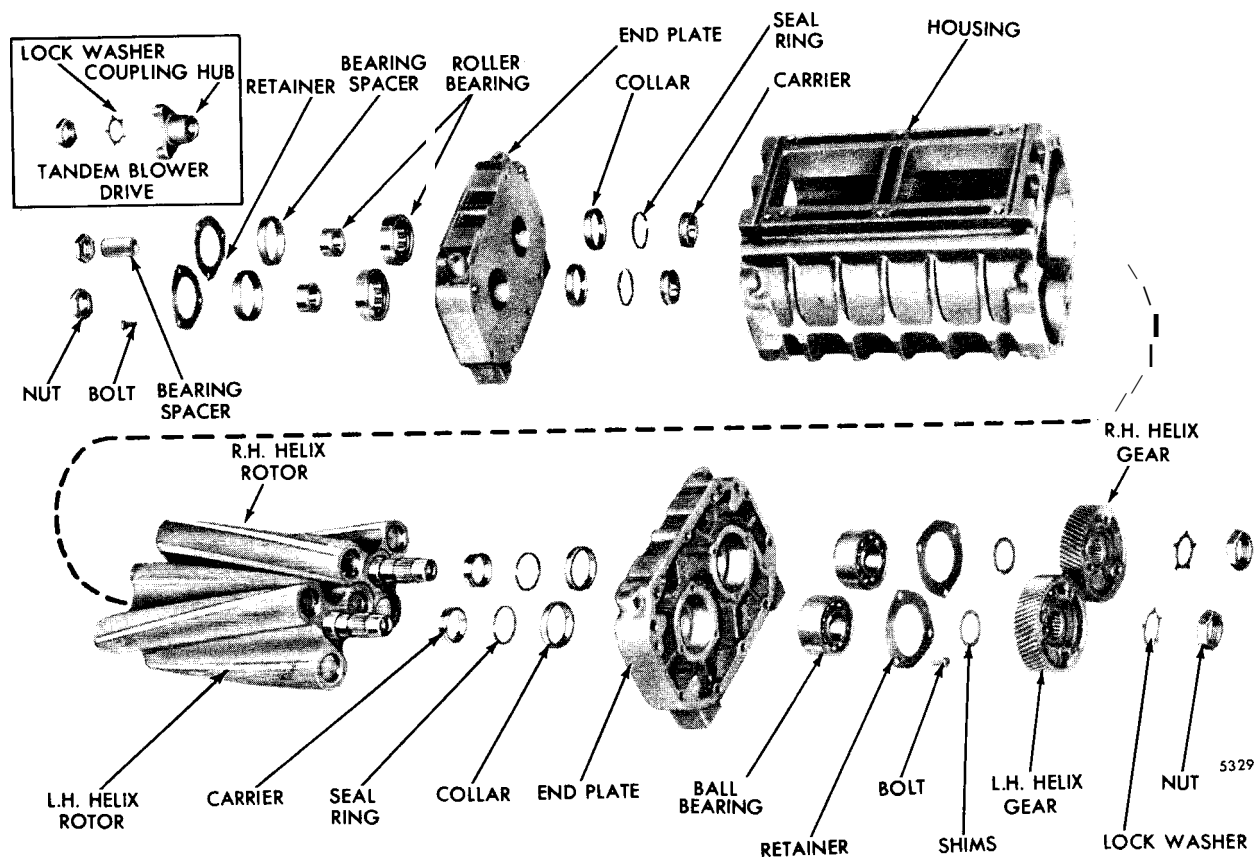

Fig. 13 - Blower Components
7. Remove the blower drive coupling hub from the front R.H. helix rotor shaft of the rear blower with puller J 22706-16 (inset, Fig. 13).
- e. Install bearing spacers over the outer races of the roller bearings (Fig. 13).
- j. Apply a small quantity of International Compound No. 2, or equivalent, on the threads of the rear rotor shafts and the contact face of the gear retaining nuts and start the nuts on the shafts. *Do not* use International Compound on the shaft splines. After the timing gears have been worked down the shafts and begin to bottom, continue to tighten the 1—5/16"—18 retaining nuts alternately to 200-250 lb-ft (271-339 N«m) torque (Fig. 13). Bend one or more of the tangs on each lock washer against the side of its retaining nut.
2. If removed, attach three (3) spring plates to the blower drive coupling hub with three (3) 7/16"-30 x 7/8" self-locking bolts. Tighten the bolts to 57-61 lb-ft (77-83 N*m) torque.
3. Attach the hub and spring plate assembly to the R.H. helix timing gear of the rear blower with three (3) 7/16"-20 x 7/8" self-locking bolts. Tighten the bolts to 57-61 lb-ft (77-83 N*m) torque.
4. Install the blower end plate cover gasket and blower end plate cover over the gear end of the rear blower (Fig. 13). Install ten (10) 3/8"-16 x 3-1/4" bolts, lock washers and plain washers.
5. Place a cloth between the rotors when installing the coupling hub. Install the blower rotor coupling hub on the front of the R.H. helix rotor of the rear blower with gear installer J 22706[^]1 and installer set J 22706-10 (inset, Fig. 13).